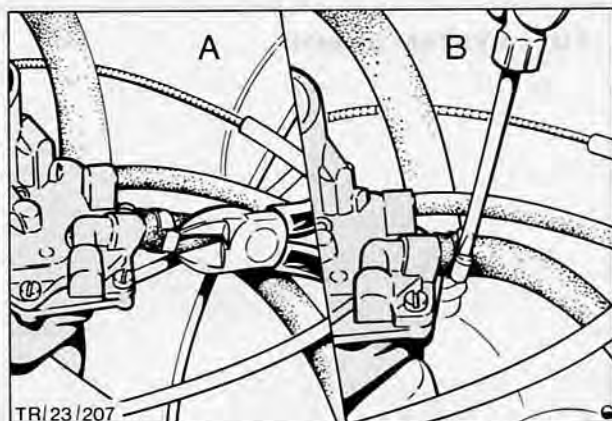

Fig. 22. Disconnecting and reconnecting carburettor supply pipe
If a crimped type hose is fitted it must be cut free and replaced with a screw type hose clamp, Fig. 22.
13. Reconnect pump inlet hose, Fig. 22.
Refer sub-operation 4 and Fig. 22.